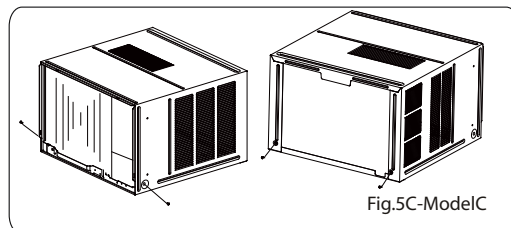

Fig.5C-ModelC
1. Remove four screws located on both sides and the back of the cabinet as shown in Fig.5C.